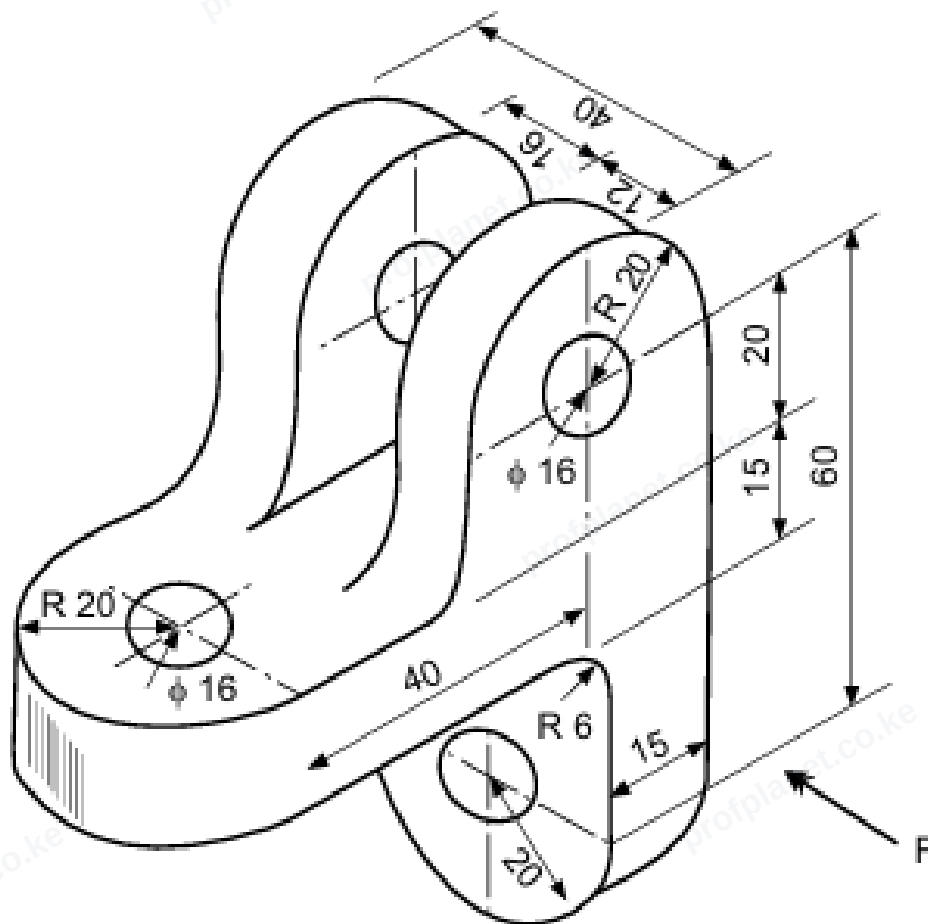

Figure 1
11. Engineering drawings are presented as orthographic projections so as to provide specific details. Figure 1 below shows an isometric production drawing ,